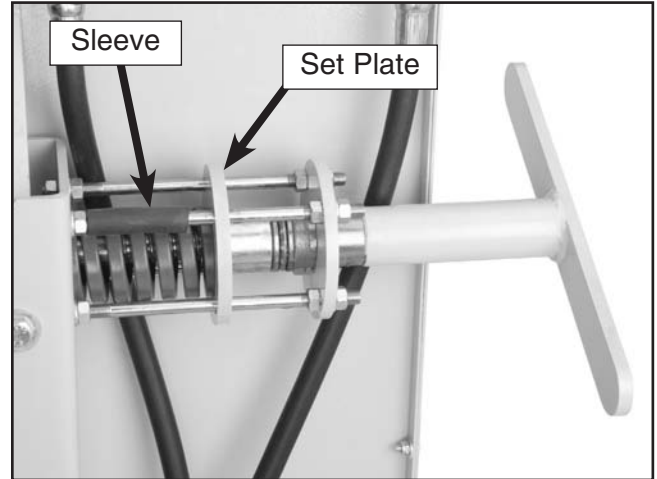

Figure 22. Blade tensioning handle.
- Hand tighten the handle until the set plate comes in contact with the sleeve shown in **Figure 22**.